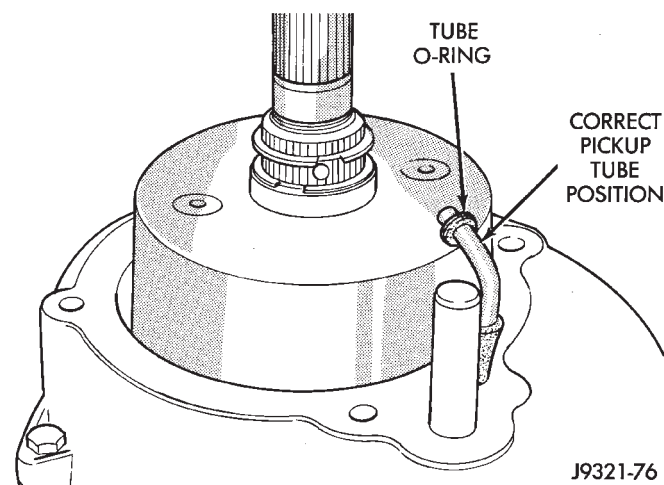

Fig. 67 Checking Position Of Oil Pickup Tube
(13) Verify that oil pickup tube is still seated in case notch and tube end is pointed toward mainshaft (Fig. 67).